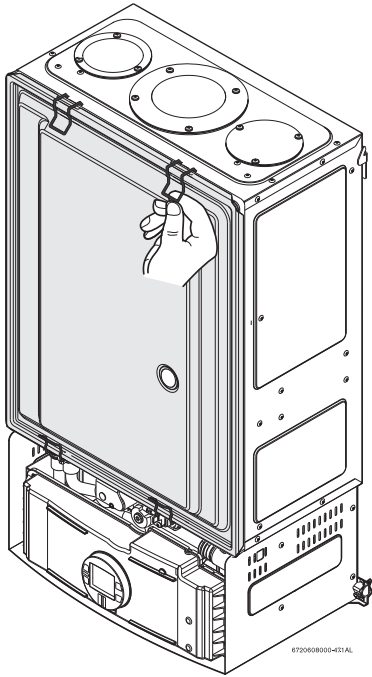

Fig. 4 Removing combustion cover
- ▶ **6.** Remove combustion cover, see Fig. 4.